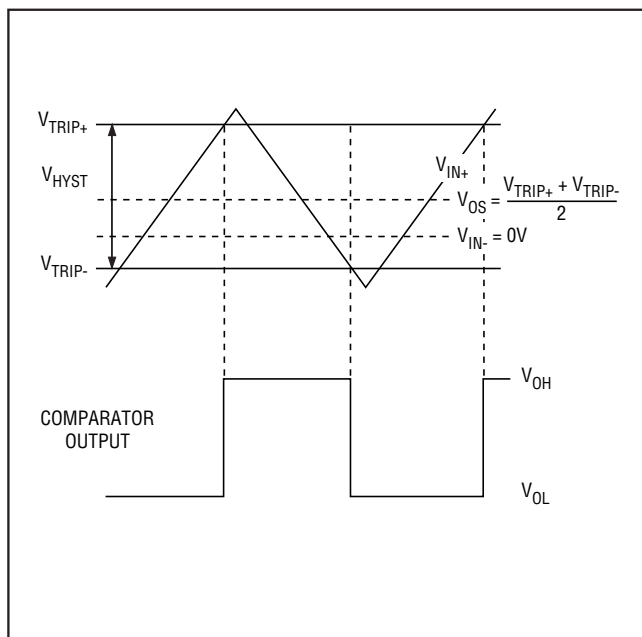

Figure 1. Input and Output Waveform, Noninverting Input Varied
- Note 2:** The input-referred trip points are the extremities of the differential input voltage required to make the comparator output change state. The difference between the upper and lower trip points is equal to the width of the input-referred hysteresis zone (see Figure 1).
- Note 3:** V_{OS} is defined as the center of the input-referred hysteresis zone (see Figure 1).
The hysteresis in a comparator creates two trip points: one for the rising input voltage and one for the falling input voltage (Figure 1). The difference between the trip points is the hysteresis. When the comparator's input voltages are equal, the hysteresis effectively causes one comparator input voltage to move quickly past the other, thus taking the input out of the region where
Figure 1 illustrates the case where $IN-$ is fixed and $IN+$ is varied. If the inputs were reversed, the figure would look the same, except the output would be inverted.